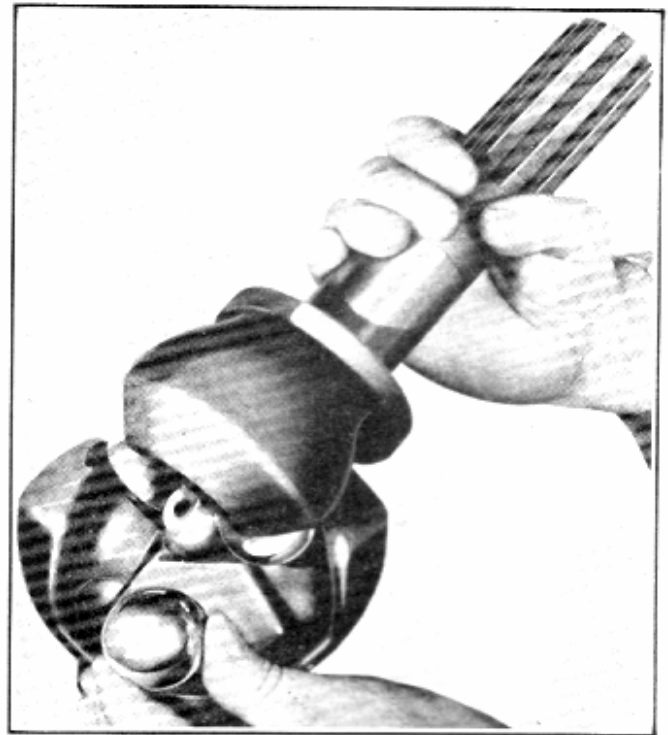

Fig. 26—Installing "U" Joint Balls
5. Turn the centre ball until the groove in it lines up with the raceway for the remaining ball as shown in Fig. 26. Slip the ball into the raceway and straighten up the wheel end of the shaft.